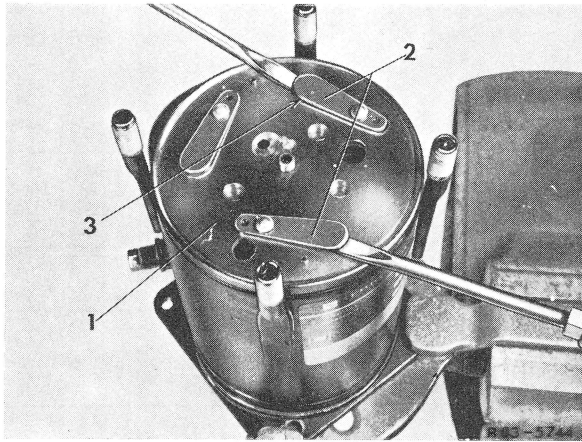

Figure 2 Removing rear discharge valve plate
**4** Invert compressor in holding fixture with front end down. Remove hexagon nuts from compressor housing and remove rear headpiece. If headpiece is binding, tap uniformly around headpiece using rubber hammer (Fig. 2).
**9** Carefully remove rear valve plates. For this purpose, position two screw drivers under valve holders — not between spring and spring seat — and pry out valve plates (Fig. 2).
**29** Hold support block to invert compressor and place into holding fixture. Then remove support block (Fig. 2)